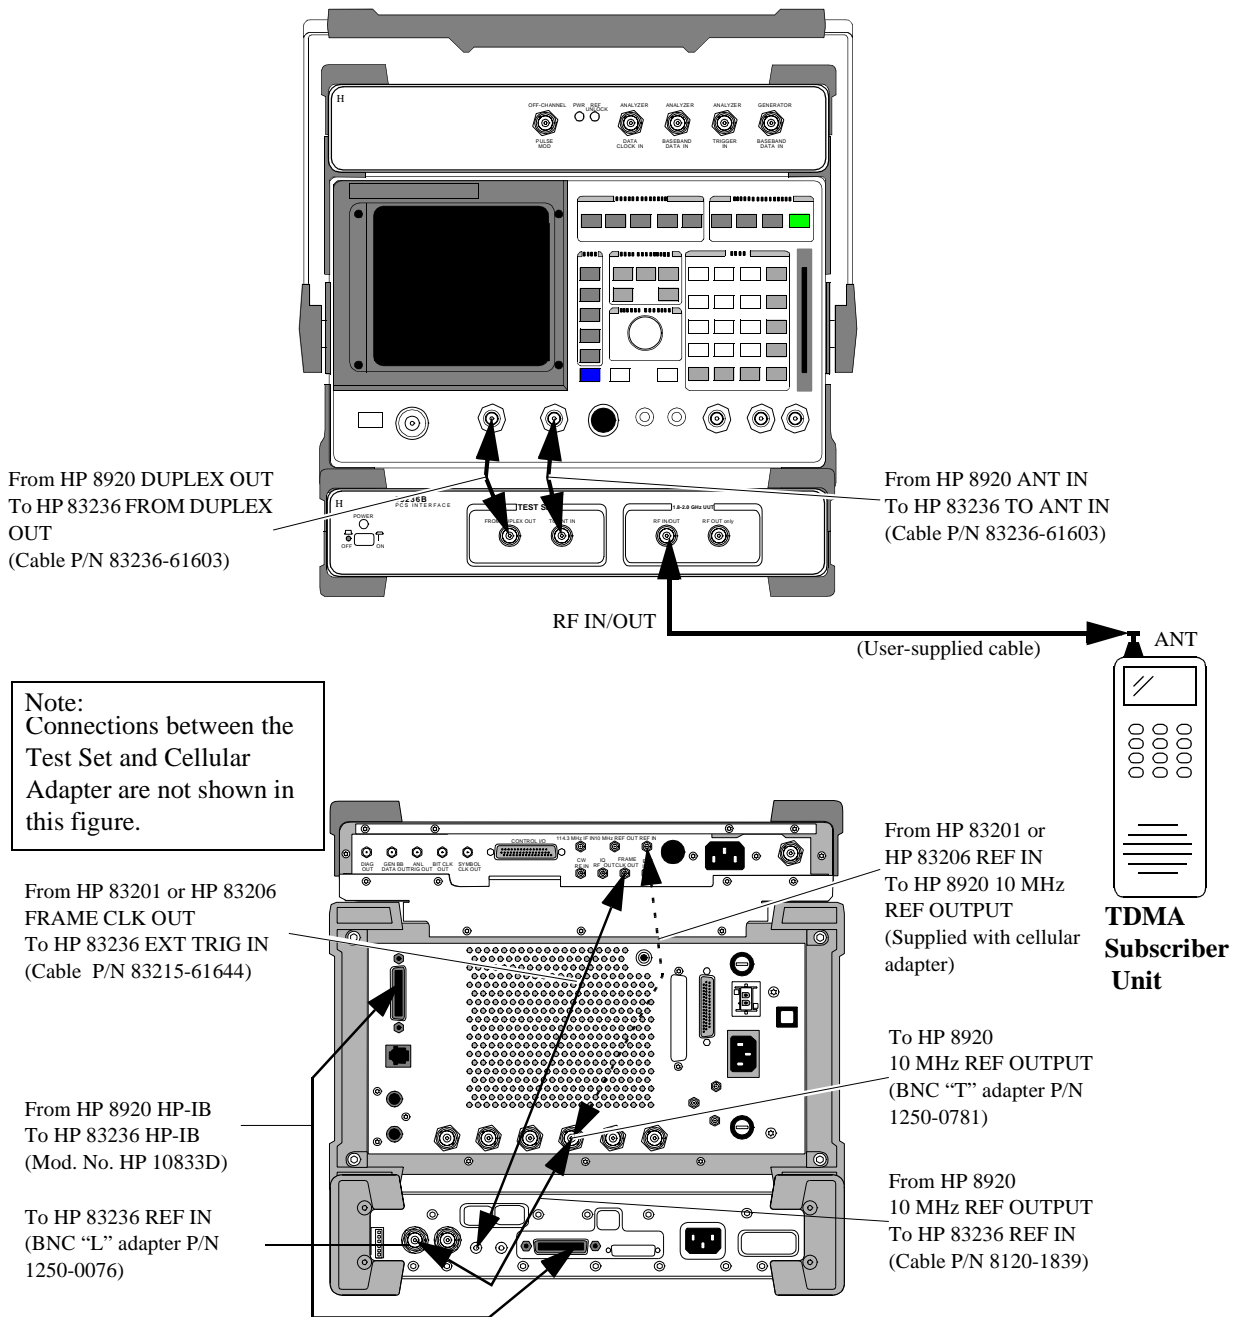

Figure 12 Connection diagrams for the HP 8920 Test Configuration (TDMA Subscriber Unit Tests; HP-IB Control)
- 2 Make the front and rear panel connections shown in figure 12.